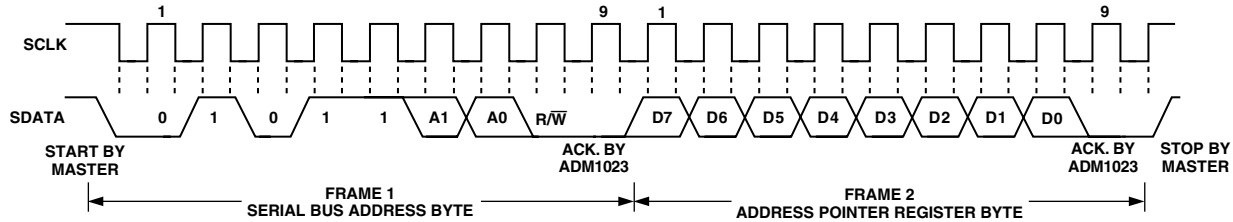

Figure 15. Writing to the Address Pointer Register Only
as before, but only the data byte containing the register read address is sent, as data is not to be written to the register. This is shown in Figure 15.
A read operation is then performed consisting of the serial bus address, R/\bar{W} bit set to 1, followed by the data byte read from the data register. This is shown in Figure 15.
2. If the Address Pointer Register is known to be already at the desired address, data can be read from the corresponding data register without first writing to the Address Pointer Register, so Figure 15 can be omitted.